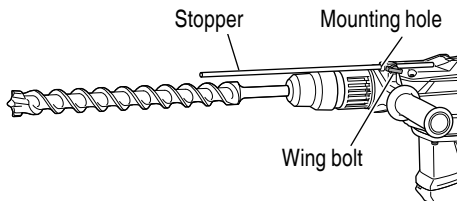

Fig. 26
- (c) Switch the selector lever to “hammering” according to the procedures mentioned in the above item (1) and secure the position of the tool.
5. Install the stopper (Fig. 26)